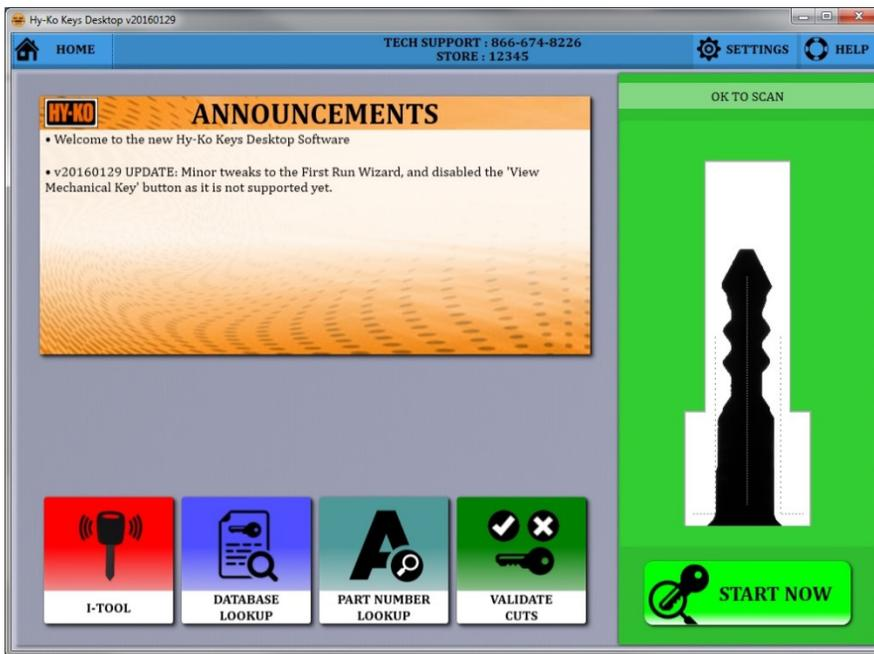

fig. 53
- Insert the key into the Vision Box (see fig. 54). You will see the image of the key blade in the scanning window on the right side of the screen (see fig. 53).